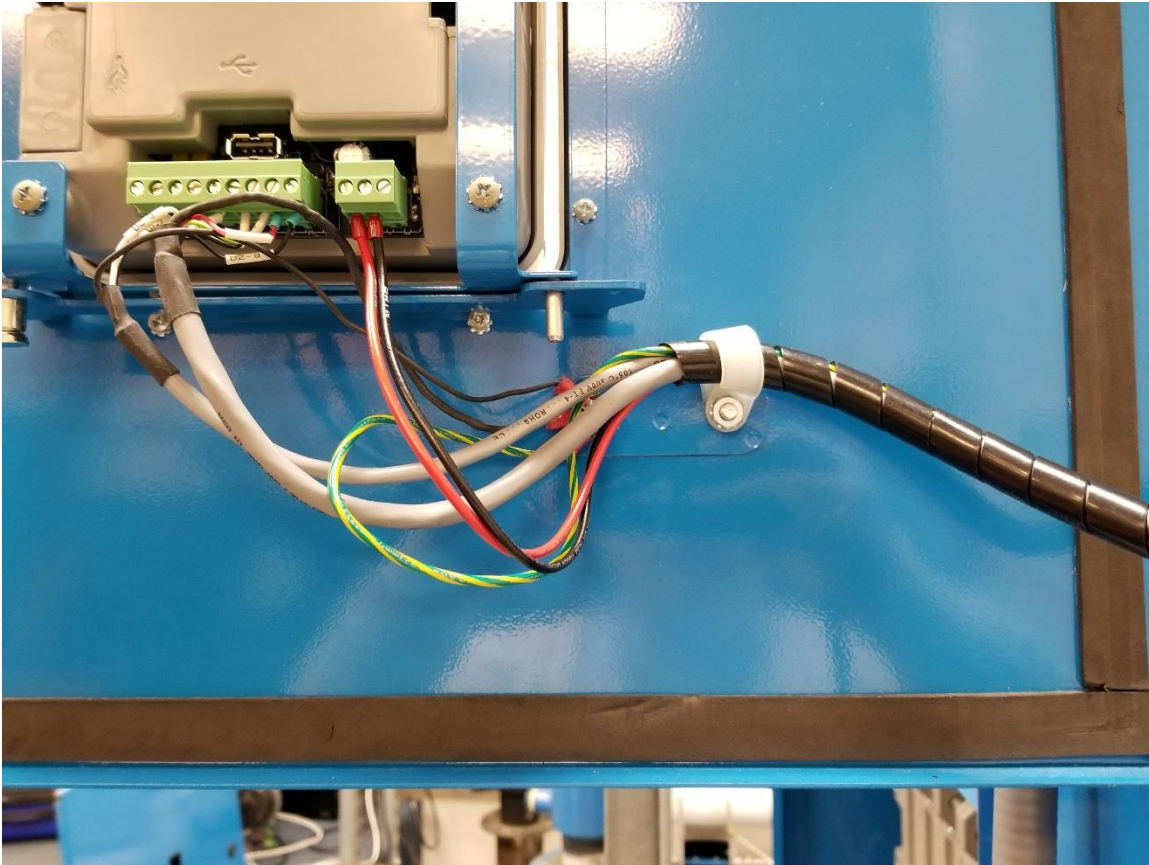

Figure 19
23. Insert green electric plug D1 and D2 into NURO control and attach all ground wires to front door ground lug shown in figure 19.